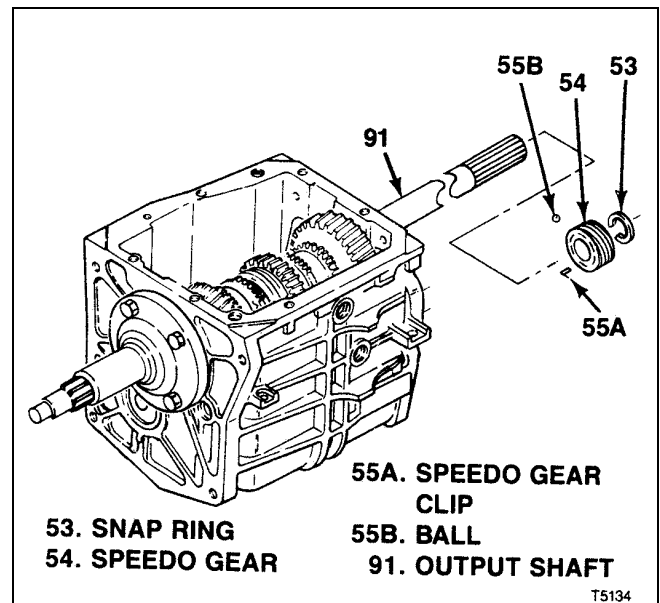

Figure 4-6. T5 STD Speedometer Gear
- c. To separate 5th shift fork (48) and shift rail assembly (50), drive out roll pin (47). Remove inserts (49) from fork.
- e. Remove blocking ring (51) and 5th speed drive gear (52) from transmission.
**4-12. REMOVAL OF T5 STD SPEEDOMETER GEAR.** On models so equipped, remove speedometer gear as follows: (see figure 4-6):
- a. Remove one snap ring (53).
- b. Remove speedometer gear (54) from output shaft (91) by one of the following methods, depending on attachment method:
1. Disengage clip (55A) and remove speedometer gear (54) and clip.
2. Slide speedometer gear (54) outward and remove ball (55B).